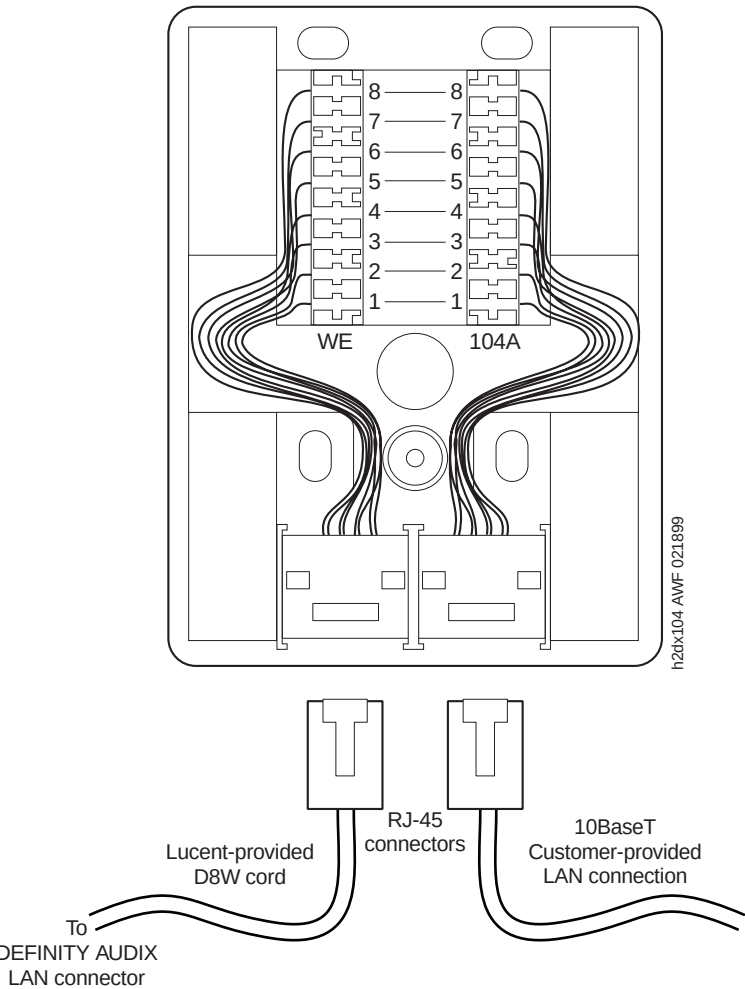

Figure 2-5. 104A Connecting Block
1. Arrange the ends of these eight wires into the connecting blocks (Figure 2-5).